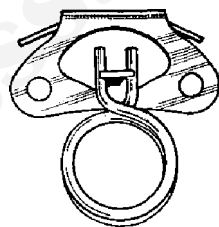

Fig. 20
Take off the outer cover and remove the ratchet plate and spindle (50), with the pawl spring behind it. Tap out the pawl carrier (52), together with its washer (53), remove the two bolts (73) and lift away the plate. The pedal spring correctly located is shown in Fig. 20.